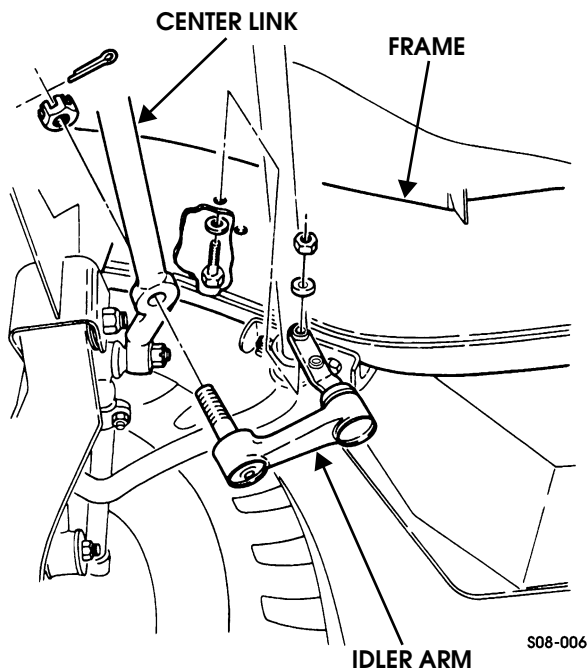

Figure 8-9: Idler Arm Removal
2. Remove the cotter pin and the slotted nut securing the idler arm to the center link (Figure 8-9).